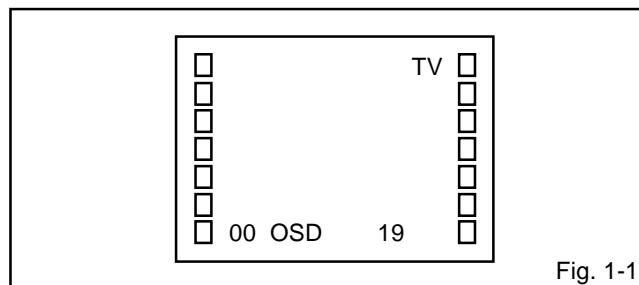

Fig. 1-1
1. In the condition of NO indication on the screen. Press the VOL. DOWN button on the set and the Channel button (9) on the remote control for more than 2 seconds to appear the adjustment mode on the screen as shown in Fig. 1-1.
3. Activate the adjustment mode display of Fig. 1-1 and press the channel button (01) on the remote control to select "CUT OFF".
4. Activate the adjustment mode display of Fig. 1-1 and press the channel button (10) on the remote control to select "R.BIAS".
3. Activate the adjustment mode display of Fig. 1-1 and press the channel button (22) on the remote control to select "TINT".
6. Activate the adjustment mode display of Fig. 1-1 and press the channel button (19) on the remote control to select "COL.CENT".
1. Activate the adjustment mode display of **Fig. 1-1**.
3. Activate the adjustment mode display of **Fig. 1-1** and press the channel button (05) on the remote control to select "H.PHAS".
3. Activate the adjustment mode display of **Fig. 1-1** and press the channel button (06) on the remote control to select "V.SIZE".
3. Activate the adjustment mode display of **Fig. 1-1** and press the channel button (07) on the remote control to select "V.SFT".
3. Activate the adjustment mode display of **Fig. 1-1** and press the channel button (13) on the remote control to select "BRI.CENT".
2. Activate the adjustment mode display of **Fig. 1-1** press the channel button (17) on the remote control to select "CONT.MAX".
5. Activate the adjustment mode display of **Fig. 1-1** pass the channel button (17) on the remote control to select "CONT.MAX".